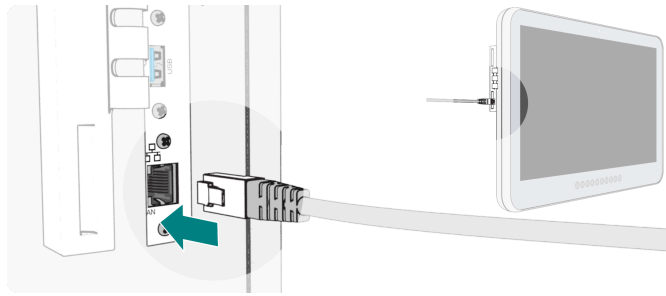

Figure 5: Ethernet connection (shown for CORE 24 model)
4. If configured for wired network connectivity, make sure Ethernet is connected (Figure 5).